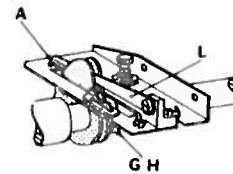

fig. 10
8. Adjusting the lower looper thread take-up cam (fig. 10):